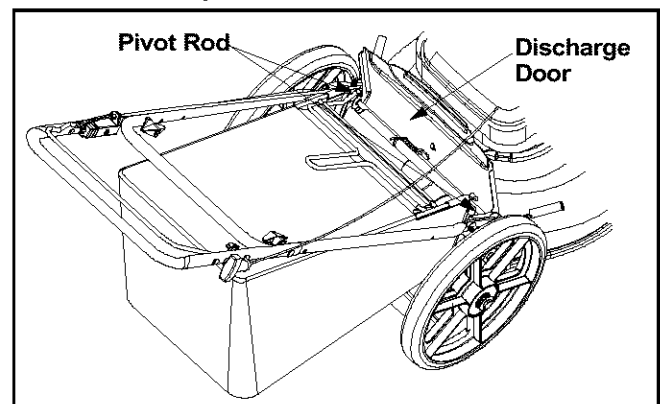

Figure 8
- Holding open the rear discharge door, place the grass catcher on the pivot rod. Let go of discharge door so that it rests on the grass catcher. See Figure 8.